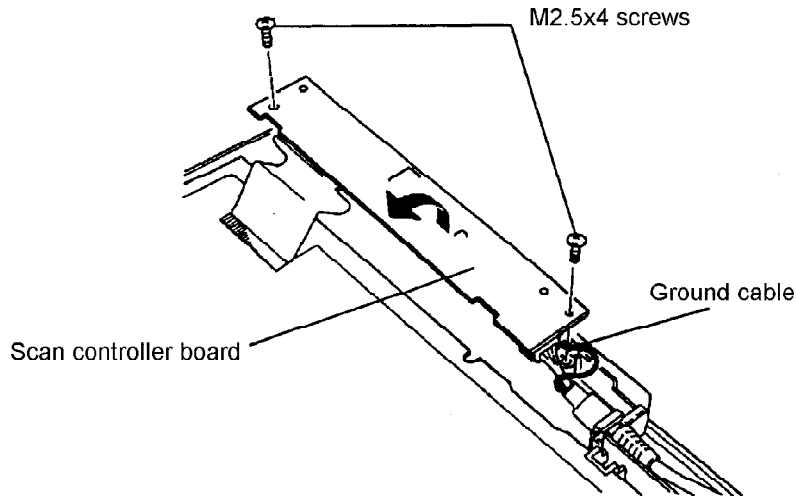

Figure 4-9 Removing the Scan Controller Screws
5. Locate the **scan controller board** in the upper left corner of the keyboard assembly (next to the **keyboard cable** connection, Figure 4-9).
6. Remove the **two M2.5x4 screws** securing the **scan controller board** to the keyboard assembly as illustrated in Figure 4-9. Note the **ground cable** secured by one of the **M2.5x4 screws**.
7. Gently lift the **scan controller board** and rotate it in the direction of the arrow shown in Figure 4-9.
4. Place the **scan controller board** in the keyboard assembly as illustrated in Figure 4-9. Make sure the **keyboard ground cable** is installed under the screw next to the **keyboard cable** connection. Secure the **scan controller board** with two **M2.5x4 screws**.